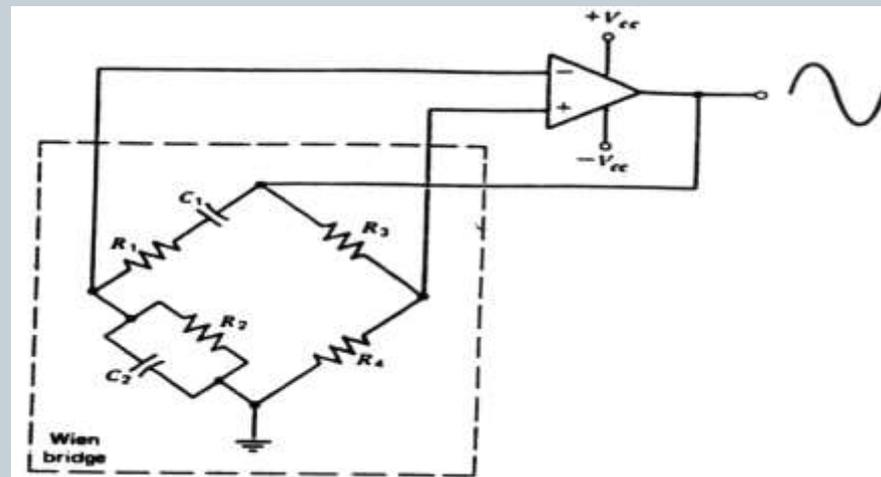

Fig. 1-2 Wien bridge oscillator.
- The basic Wien bridge oscillator is shown in Fig. 1-2. as can be seen. the Wien bridge oscillator consists of a Wien bridge and an operational amplifier represented by the triangular symbol. Operational amplifiers are integrated circuit amplifiers and have high-voltage gain, high input impedance, and low output impedance. The condition for balance for an ac bridge is